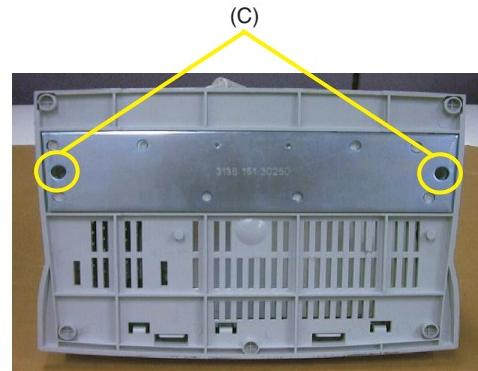

Fig. 2
Step 1 : Remove two screws (C). See Fig. 2